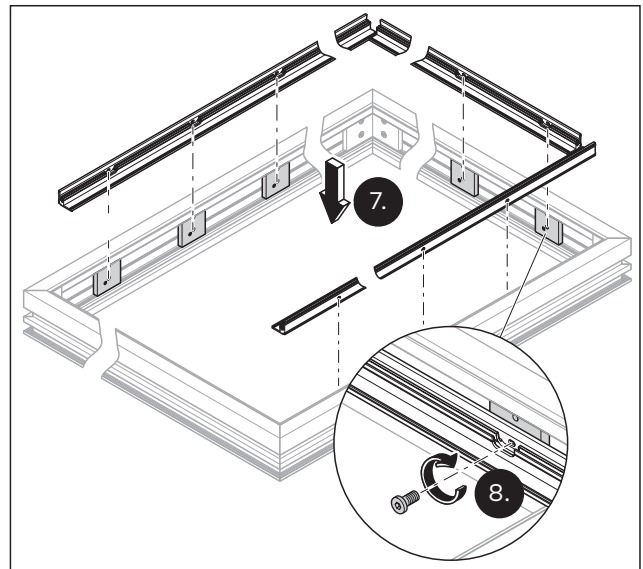

Fig. 18 Attach the base profiles to the acoustic element frames
7. Place the upper horizontal base profile and the two vertical base profiles on the spacers (Fig. 18).
13. Place the lower horizontal base profile on the spacers (cf. Fig. 18).